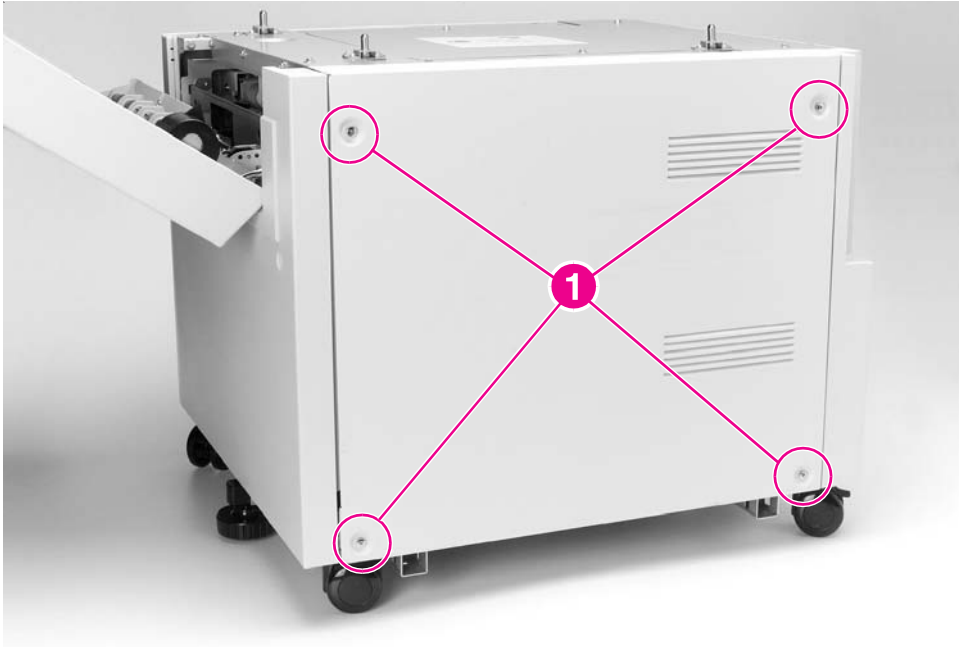
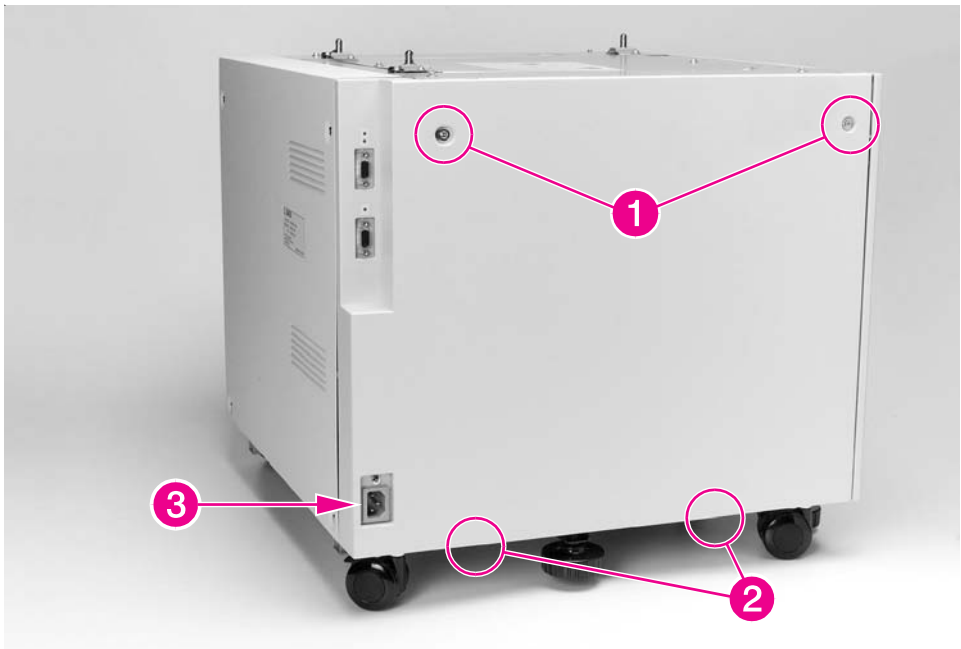
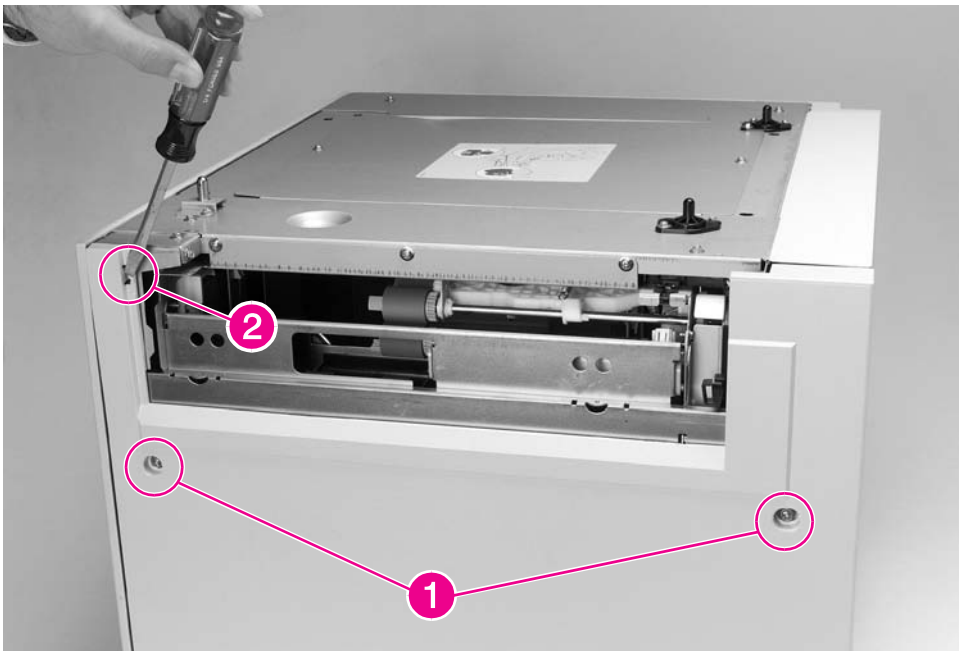

Figure 6-65 2000-sheet Input Tray Back Cover
Figure 6-66 2000-sheet Input Tray Left Cover
Figure 6-67 2000-sheet Input Tray Right Cover
- 2 Remove the 4 screws that secure the Back Cover of the 2000-sheet Input Tray to the chassis: 1 screw on each corner (figure 6-65, callout 1).
- 2 Remove the 2 screws that are located at the top of the 2000-sheet Input Tray's Left Cover: 1 screw near each corner (figure 6-66, callout 1).
- 2 Remove the 2 screws that are located near the middle of the 2000-sheet Input Tray's Right Cover: 1 screw on each side (figure 6-67, callout 1).
- 3 Using a flat-blade screwdriver, release the plastic retaining tab that secures the Right Cover's upper-left corner to the chassis (figure 6-67, callout 2).
- 1 Remove the Back Cover from the 2000-sheet Input Tray (see figure 6-65).
- 3 Remove the Left and Right Covers from the 2000-sheet Input Tray (see figure 6-66 and figure 6-67).
- 1** Remove the Back Cover from the 2000-sheet Input Tray (see figure 6-65).
- 1 Remove the Back and Left Covers from the 2000-sheet Input Tray (see figure 6-65 and figure 6-66).
- 2 Remove the Right Cover from the 2000-sheet Input Tray (see figure 6-67).